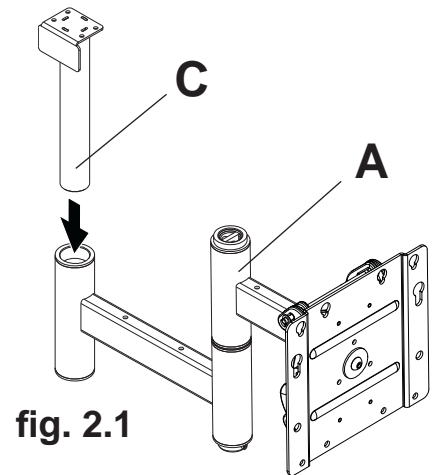

fig. 2.1
- 2 Insert arm axle (C) through arm assembly (A) as shown in figure 2.1.